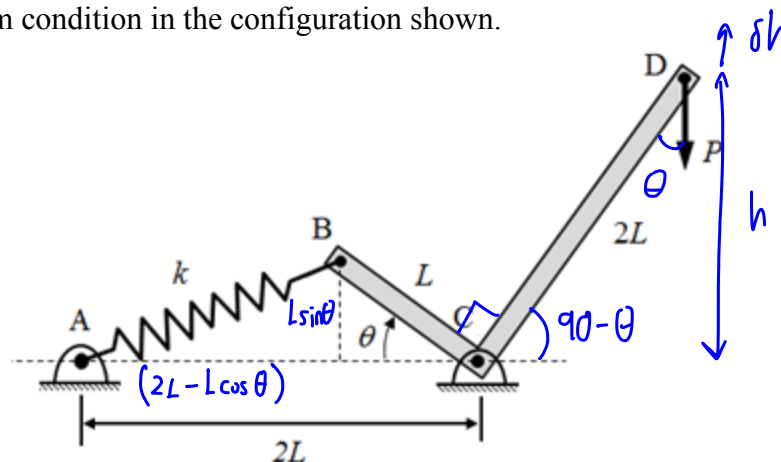

Figure 1.1
- 1 (a) Figure 1.1 shows a rigid weightless bell-crank lever BCD hinged to a support at point C and pin-jointed to a spring of stiffness k at B. The other end of the spring is pin-jointed to another support at A. The spring shown is in the stretched condition under the action of a vertical downward force P applied at point D. The arms BC and CD are of length L and $2L$, respectively, and are perpendicular to each other. The free (unstrained) length of the spring is L_0 . The distance between supports A and C is $2L$. Assume that there is no friction at the joints/connections. The system is in static equilibrium condition in the configuration shown.